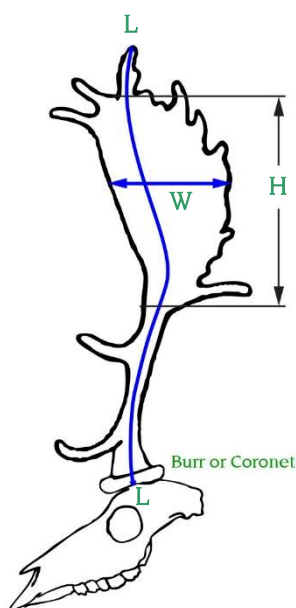
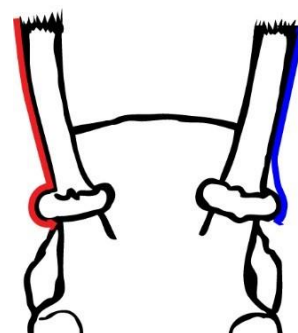

Figure 1
Figure 2
1. Length. Measure the length of each antler on the outside curve from the lower edge of the burr (coronet) to the tip of the main antler. (Figure 1, L) Start to measure on the side of the burr at the lower edge, on the point that lies between the eye socket and the ear canal. In some cases a deer burr will hardly be any more in circumference than the main beam; in others it protrudes significantly like the top part of a cork of a champagne bottle. If the burr protrudes outward from the main beam, the tape measure must not be pressed into the 90-degree corner where the burr meets the beam; rather the tape measure must span this distance by forming an air gap. (Figure 2)
Follow the natural curve on the center of the beam first and then stay on the center of the palm. (Figure 1) The center of the beam/palm can be found by measuring the width two or three times from top to bottom and marking the center with a pencil. The tip is that tine that protrudes farthest and, thus, creates the highest score. (Figure 1, L) In many cases that tine is the foremost point on the top of the palmation, but sometimes the tip can be a tine toward the front or rear. Only when the tape nears the top of the palm should you divert from the centerline of the palm; at that point, go to the center of the longest tine and follow it to the end.